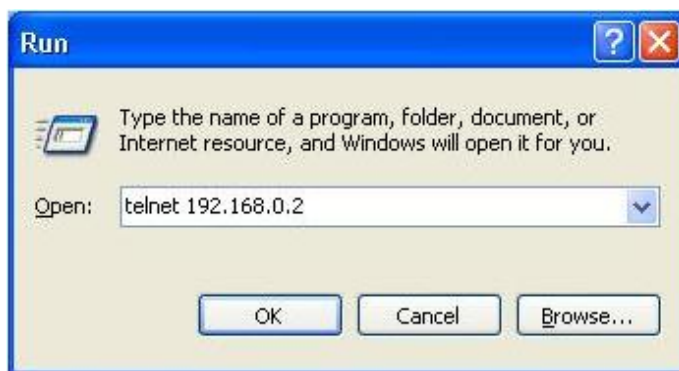

Figure 21 Access through Telnet
Step 2: Enter "telnet IP-address" in the Run dialog box, as shown in Figure 21. The default IP address of a Kyland switch is 192.168.0.2.